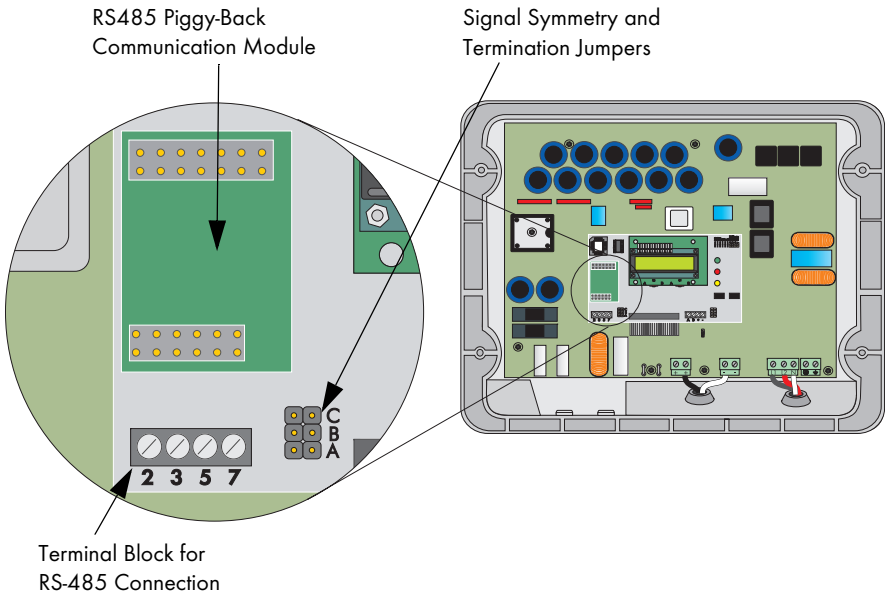

Figure 5-9: Detail of RS485 Termination and Jumper Settings
1. Connect the three wires of the RS485 cable to terminals 2, 5, and 7 of the communication terminal block as shown in Figure 5-9. Record the wire color used for each of the terminals. Torque the wires to 15 in-lb (1.7 Nm).